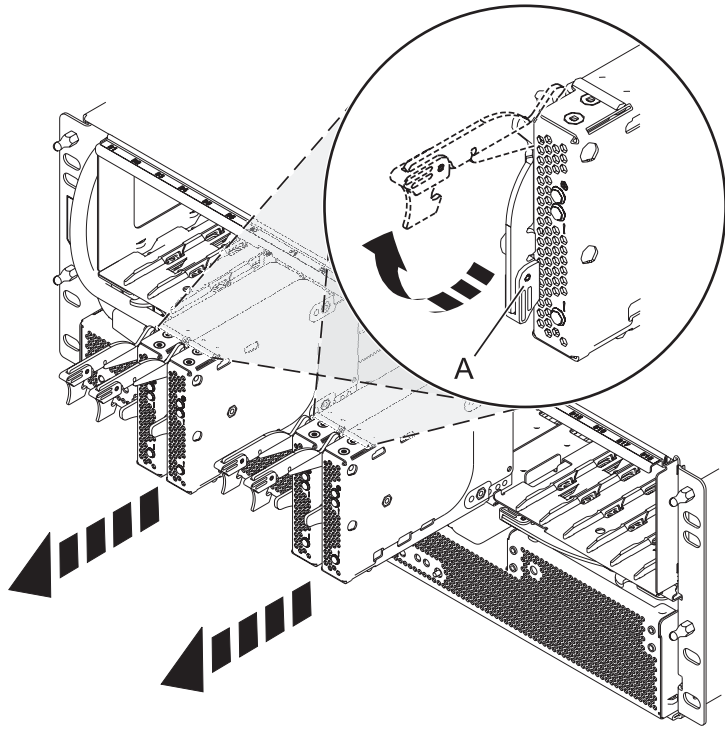

Figure 65. Removing the port card from the backplane
5. Remove the port cards and fillers as shown in Figure 65 on page 83.
- a. Hold the end of the latching handle (A) and pull it upward to unlock the port card.